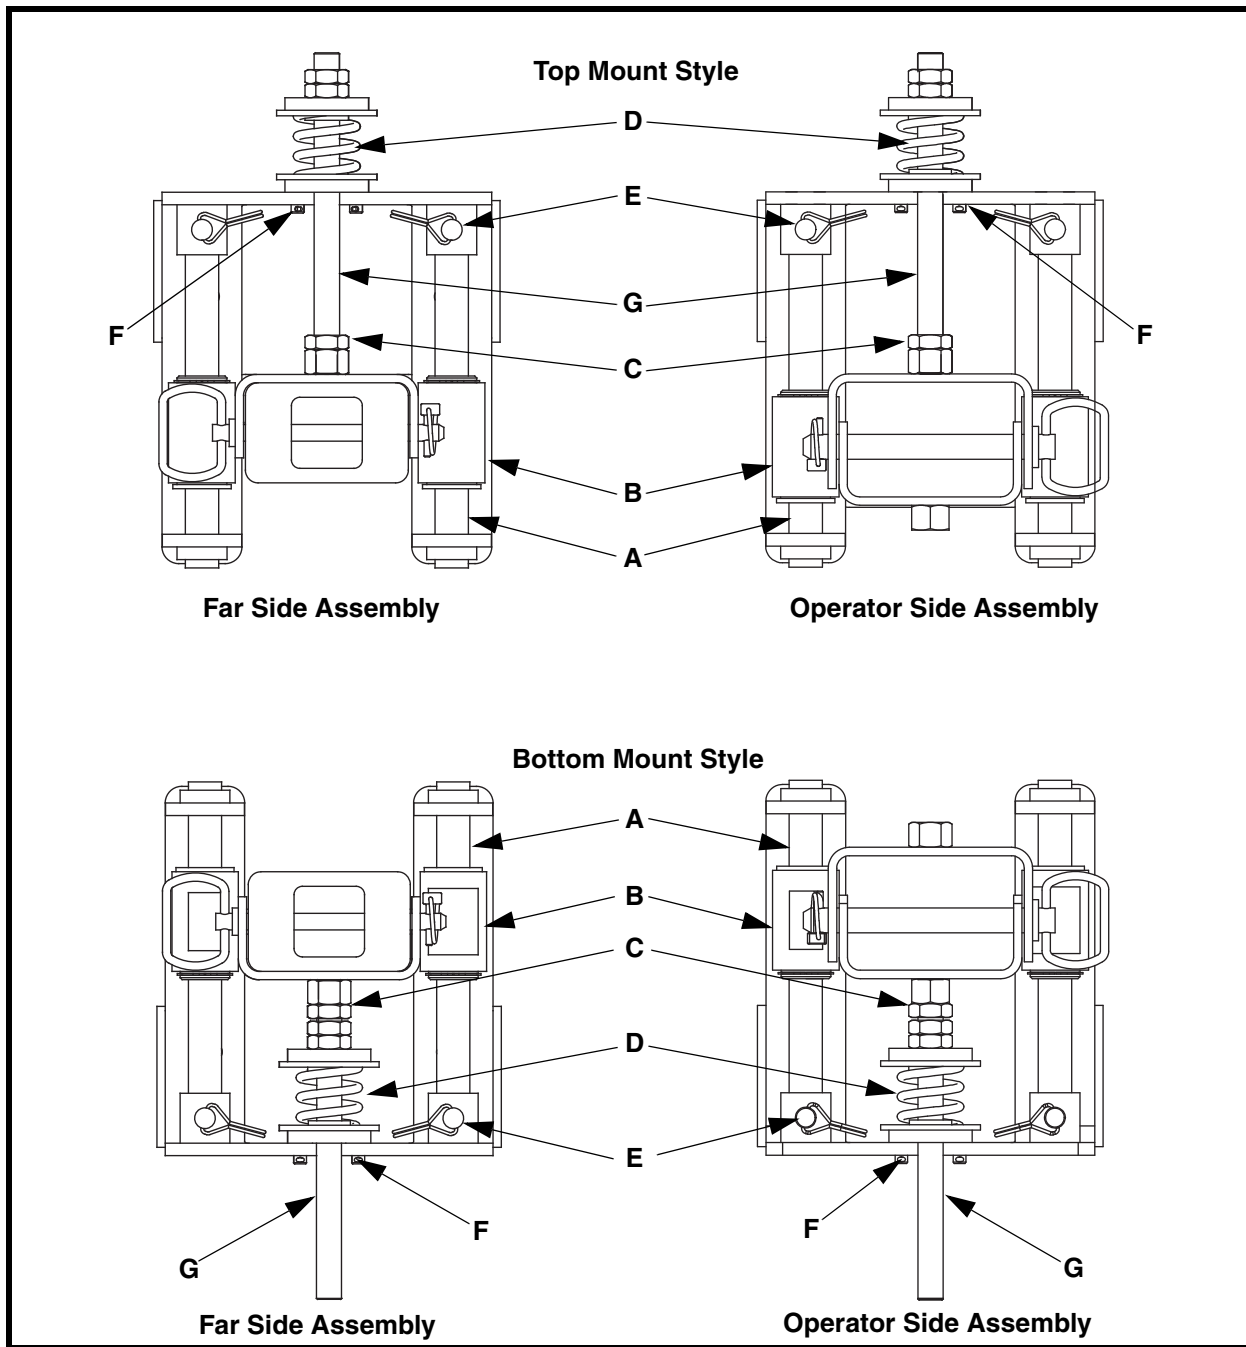

Figure 2. Spring Tensioner Conversion
1. If using spring tensioner, determine how much space is available for spring tensioner installation. If necessary, convert bottom mount spring tensioner to top mount before installing. See Figure 2.
- a. Loosen jam nut (C).
- b. Remove cotter pins (F).
- c. Remove threaded rod (G) and spring assembly (D) from slide bracket (B).
- d. Install jam nut (C) on opposite end of threaded rod.
- e. Remove pins (E) and guide rods (A) from mount bracket.